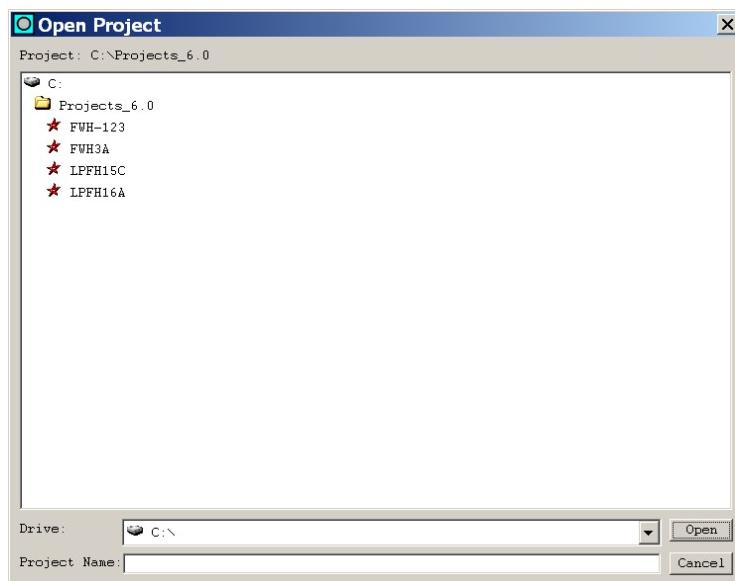

Figure 4. Open Project Dialog
- o **File | Open Project (Ctrl+O)** displays the **Open Project** dialog shown in Figure 4. Simply select the desired project file from those listed and click the **Open** button. Alternatively, you may simply double-click a file name as with any other Windows program. Afterwards, the program opens the project and displays the *project.cmp* file in the working area of the main window.